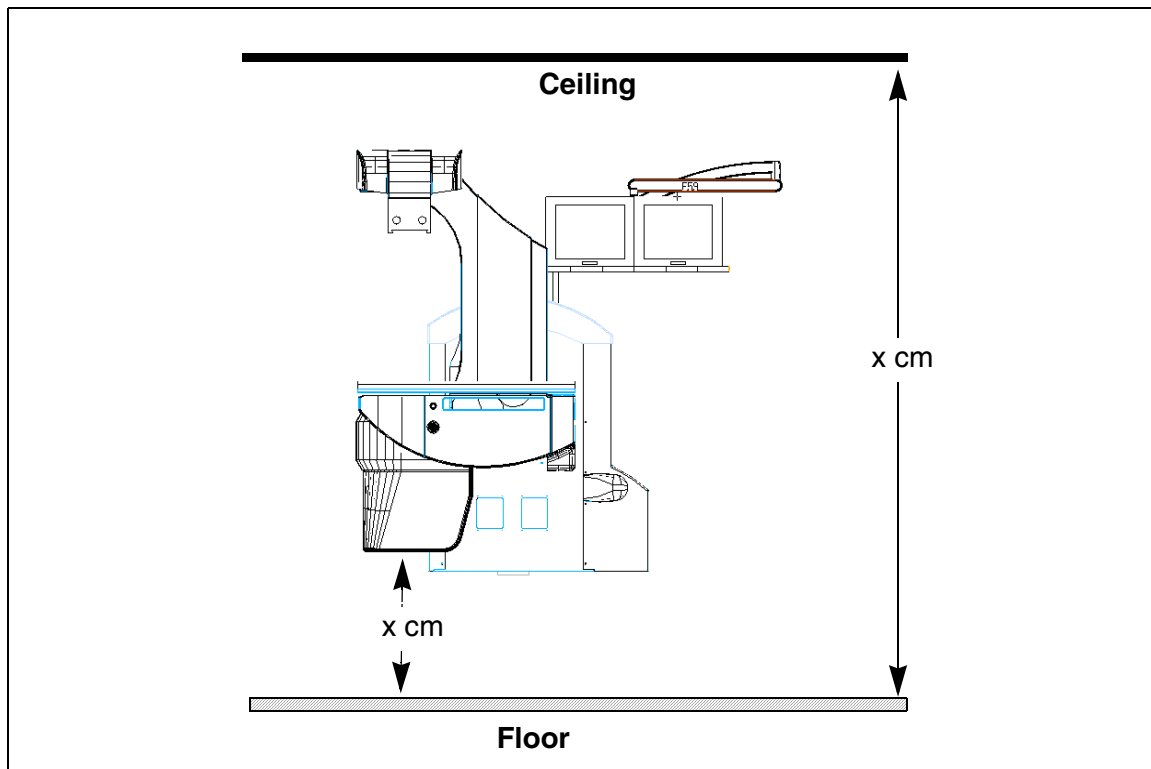

Fig. 5 Ceiling height
- Measure the distance from the floor to the ceiling (Fig. 5).
- Measure the minimum distance from the floor to the image intensifier (without I.I. collision protection) (Fig. 5).
- Measure the distance from the lowest point of the I.I. to the floor (Fig. 5).